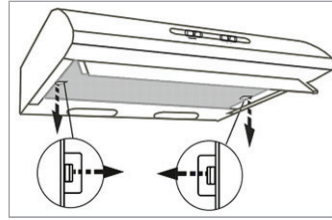

Fig. 12
- Open the device by moving the filter buttons as indicated by the arrow (fig 12)